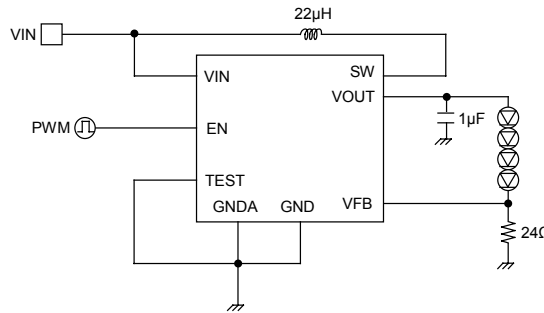

Fig.18 The brightness adjustment example of EN terminal by PWM (fPWM = 100 ~ 300Hz)
1) PWM brightness adjustment is made by giving PWM signal to EN as shown in Fig.18.